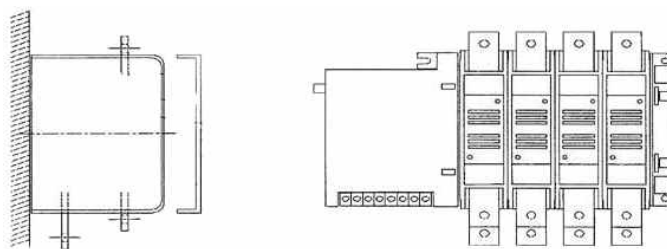

Fig 1
- 2) Please install ATS horizontally on vertical plane in accordance with below Fig 1.